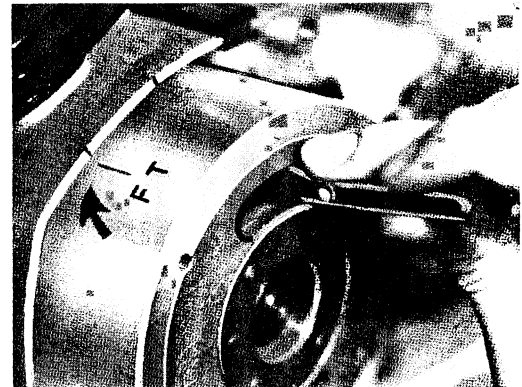

Fig. 21-17 Alignment of engine timing marks, showing flywheel and case (Pabatco)
1. Alignment of timing marks on flywheel and case (Fig. 21-17).